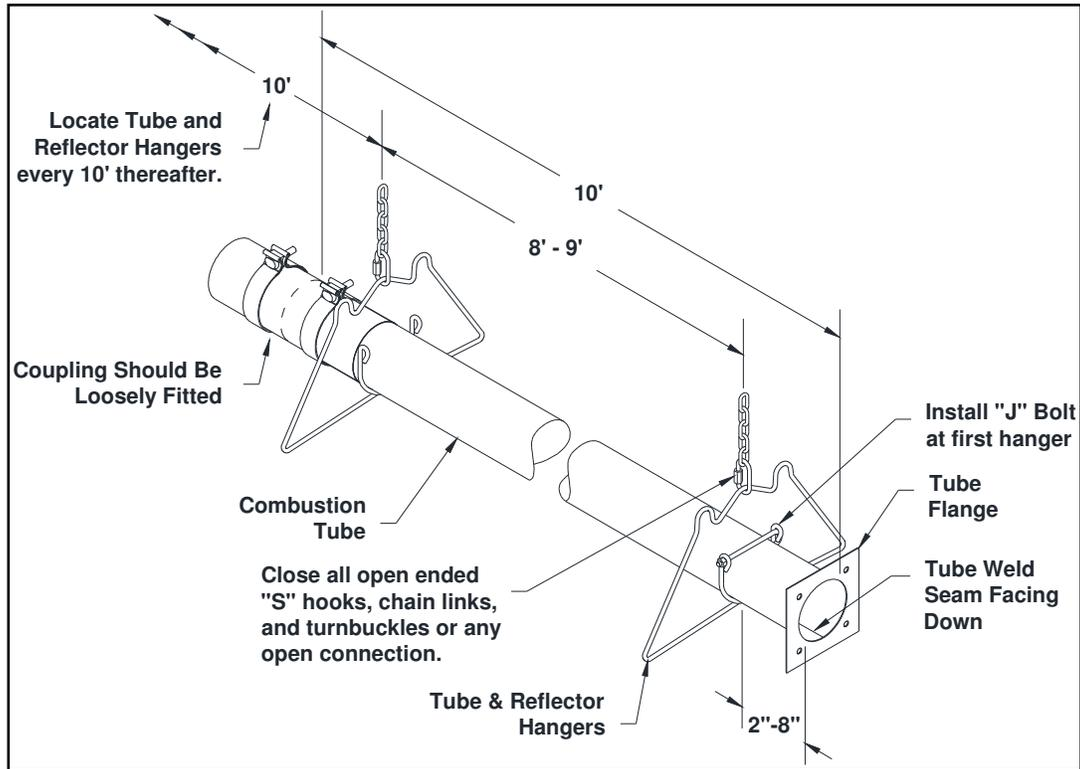

Figure 6: Installation of First section of Flanged Tube
- Place the first (*flanged, aluminized*) tube in the first two hangers (Figure 6). Be sure the flange is toward the intended burner location. The other end of the tube should have the first coupling already loosely fitted.
- Always use all the hangers supplied. As a rule the combustion tube (first tube) utilizes 2 hangers and thereafter 1 hanger per 10' section. **It is required that the first hanging point be 2" to 8" from the burner mounting flange, and tube weld seam must face down**, refer to Figure 6 for more details.